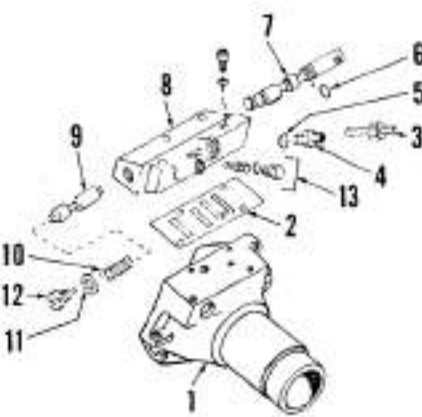

Fig. 145—Exploded view of Multi-Power shift control valve and associated parts.
Use a new gasket (2—Fig. 145) when reinstalling valve. Make sure the long cap screw with copper sealing washer is installed in the correct hole and tighten all screws evenly to a torque of 4.1-5.4 N·m (36-48 in.-lbs.). Tighten the four screws that attach housing (1) to transmission to 54-61 N·m (40-45 ft.-lbs.) torque.
148. OVERHAUL. To overhaul the removed "Multi-Power" control valve, refer to Fig. 145 and proceed as follows: